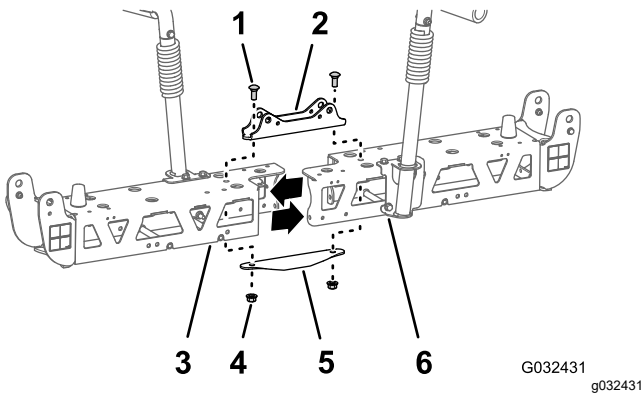

Figure 55
2. Remove the 2 carriage bolts (1/2 x 1-1/4 inches) and 2 locknuts (1/2 inch) that secure the narrow cylinder mount, left and right truss frames, and narrow tie plate (Figure 55).